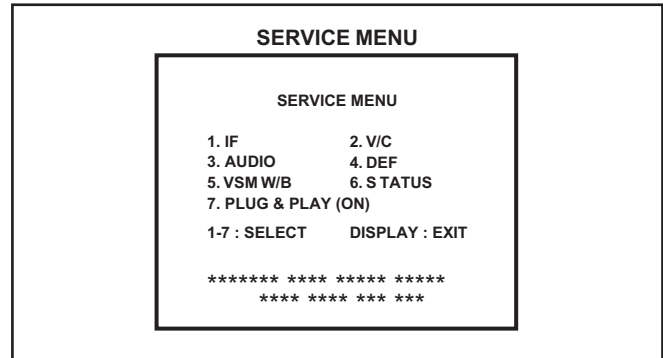

Fig.1
- (1) Remove the 15 screws [A] as shown in Fig.1.
- (2) Withdraw the REAR COVER toward you.
- (1) Slightly raise the both sides of the CHASSIS by hand and remove the 2 claws [B] under the CHASSIS from the front cabinet as shown in Fig.1.
- (2) Withdraw the CHASSIS backward.
- (1) Remove the 2 screws [C] as shown in Fig.1.
- (2) When you pull out the AV BOARD in the direction of arrow [D] as shown in Fig.1, it can be removed.
- (1) Remove the 2 screws [G] as shown in Fig.1.
- (2) Withdraw the SPEAKER backward.
- (3) Follow the same steps when removing the other hand SPEAKER.
- (1) Remove the 4 screws [H] as shown in Fig1.
- (2) Withdraw the FRONT CONTROL PWB(2/2).
- (1) Press the [DISPLAY] key and the [PICTURE MODE] key of the REMOTE CONTROL UNIT simultaneously.
- (2) The SERVICE MODE screen of Fig. 1 will be displayed.
Verify what to set in the SERVICE MODE, and set whatever is necessary (Fig.1).